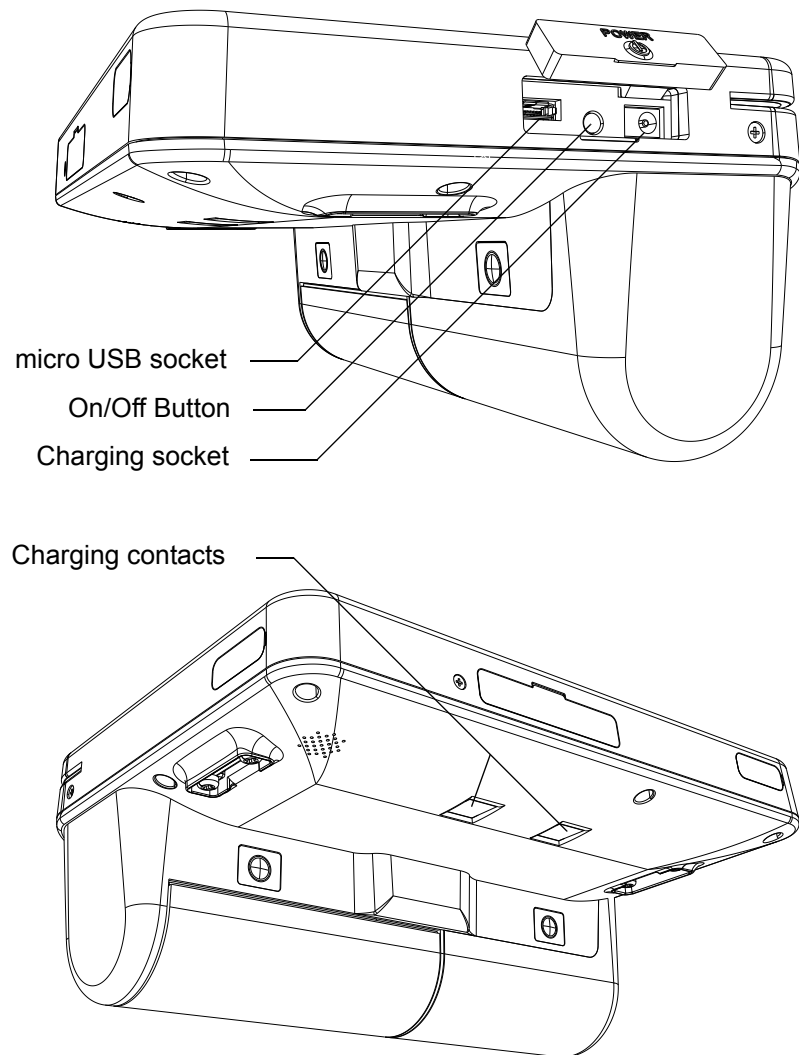

Figure 5-4: micro USB, On/Off Button, Charging socket, Charging contacts
- Open the rubber covers, under which the charging socket is located. (see Fig. 5-4)